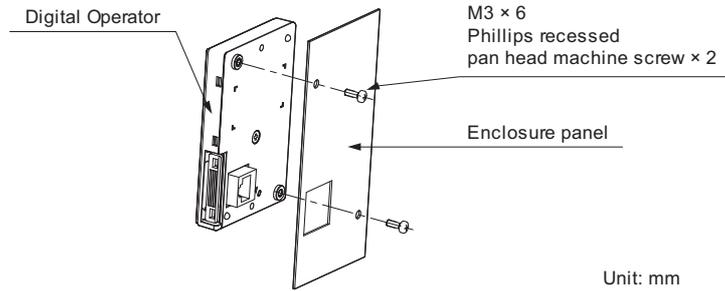

Figure 2.9 External/Face-Mount Installation
2. Position the digital operator so the display faces outwards, and mount it to the enclosure panel as shown in *Figure 2.9*.